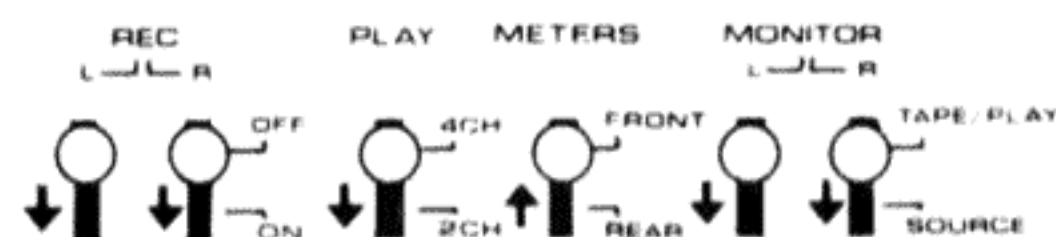

Fig. 28
6. Set both REC switches (L and R) to position ON (Fig. 28).
7. Set the PLAY switch at position 2CH (Fig. 28).
8. Set the METERS switch at position FRONT (Fig. 28).